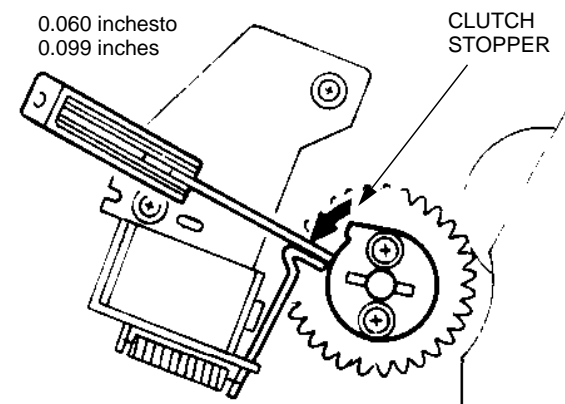

Figure 2. Stopper gap adjustment
13. Measure the distance between the solenoid pawl and the clutch stopper. The gap should measure between 0.060 inches (1.532 mm) to 0.099 inches (2.51 mm) (figure 2).